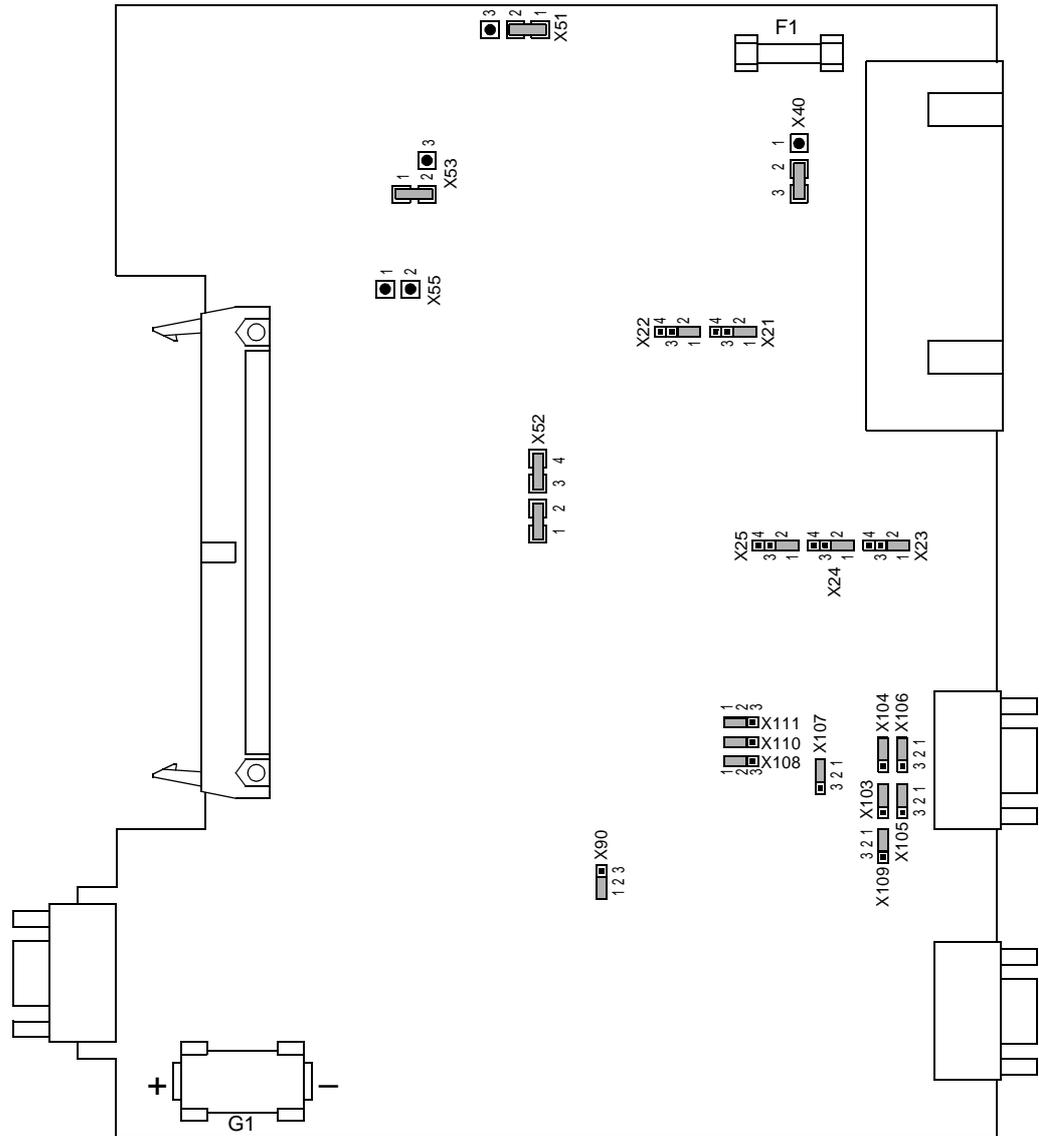

Figure 8-12 Processor printed circuit board C-CPU-2 with jumper settings required for the module configuration
- Disconnect the ribbon cables between the C-CPU-2 unit (❶) and the input/output printed circuit boards (depending on the version❷ to ❸).
- Check the jumpers according to Figures 8-12 to 8-18 and the following information
The layout of the printed circuit board of the processor printed circuit board C-CPU-2 is illustrated in Figure 8-12.